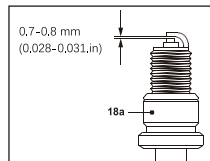

Fig. 31
6. Check the spark plug gap. It should be 0.7-0.8 mm (Fig. 31).
8. When replacing the spark plug (18a), first screw it in hand tight and then lightly tighten it with the spark plug wrench (33).